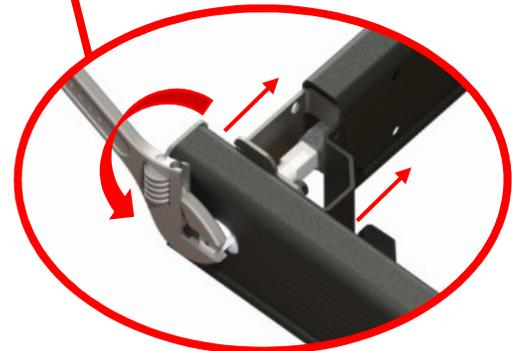

Figure 80
- 10) Secure everything in place by sliding a 5/16-18-2 hex cap screw through each of the 2 holes and put a 5/16-18 hex lock nut from the other side. (Figure 80)